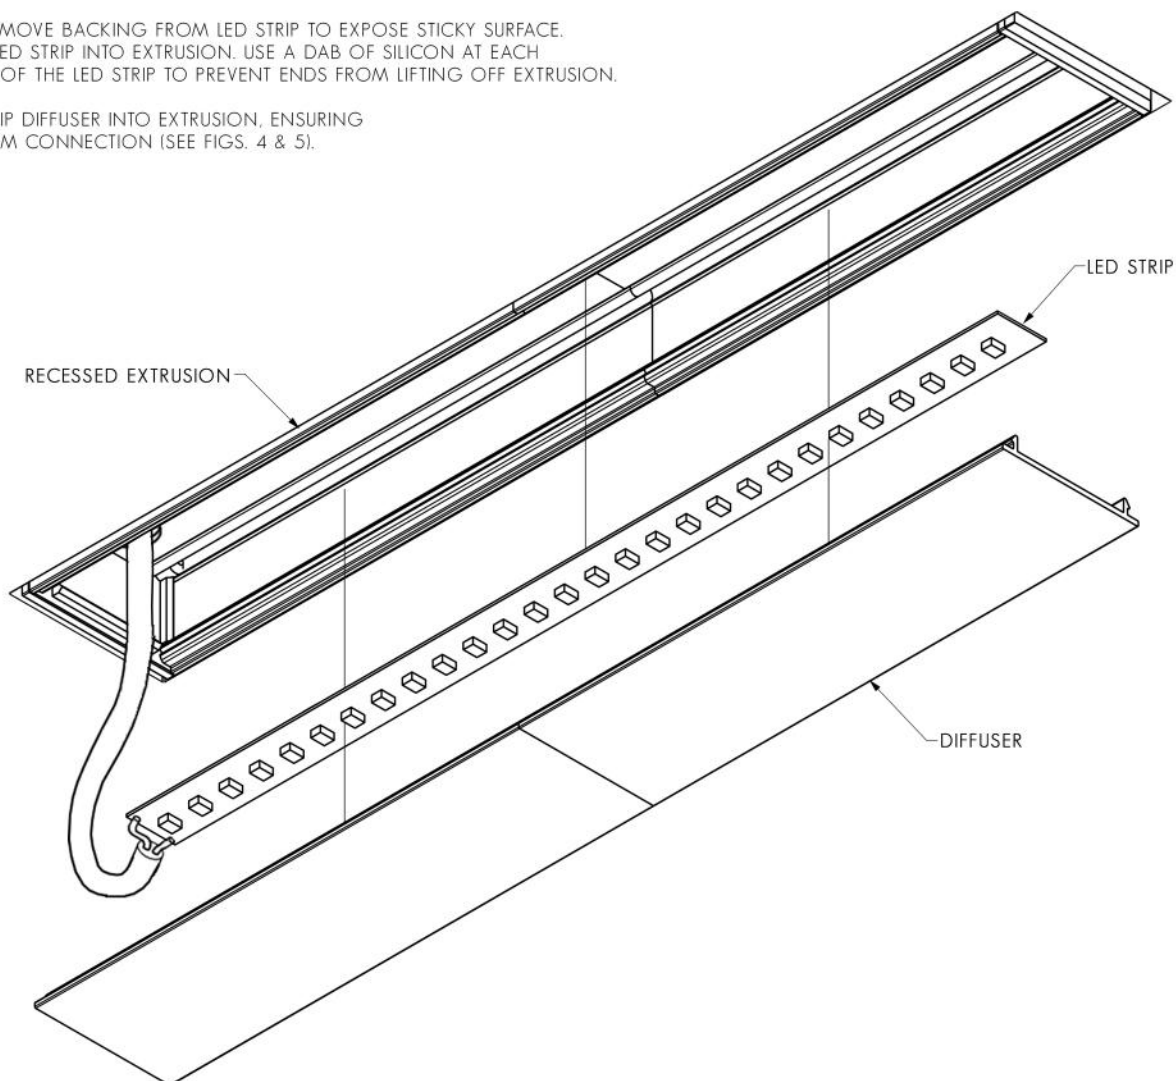

FIG. 4 - ENSURE DIFFUSER IS MOUNTED SECURELY - DOWNHILL DAN 30
3. CLIP DIFFUSER INTO EXTRUSION, ENSURING A FIRM CONNECTION (SEE FIGS. 4 & 5).